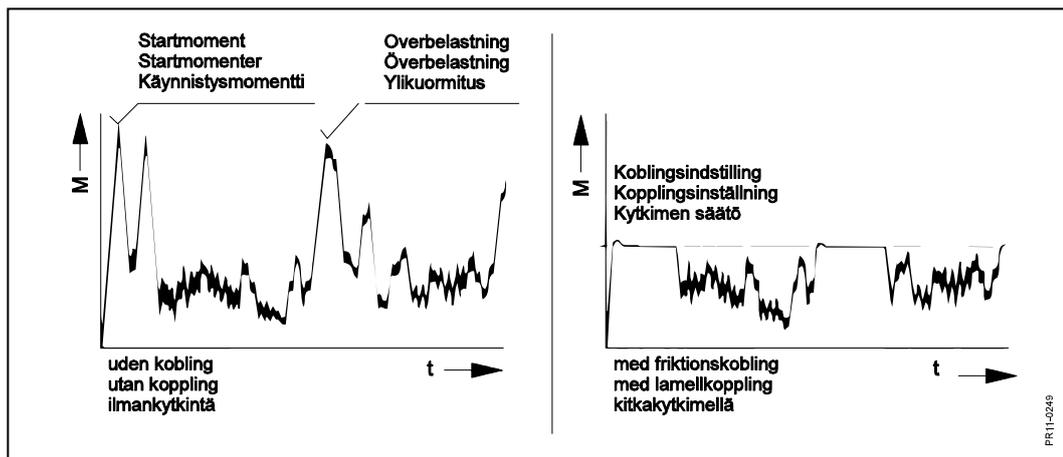

Fig. 5-1
**Fig. 5-1** In order to ensure a long life for your tractor and machine the machine is delivered with **friction clutch** on the front PTO drive shaft. On the figure is shown how the friction clutch protects the transmission against high torque peaks and at the same time is capable of transmitting the nominal torque while it slips.